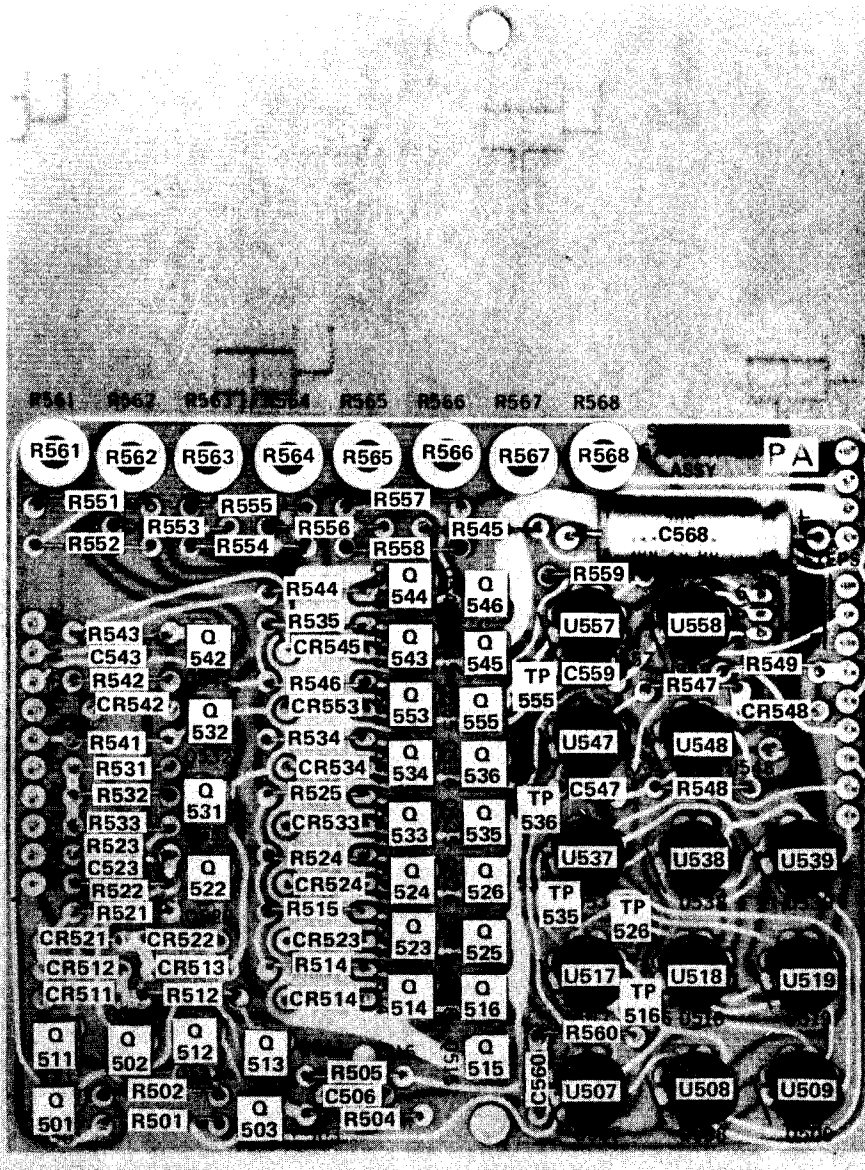

Fig. 3. Staircase circuit board (670-1347-00).
Staircase: Existing photos of the Staircase circuit board (670-0305-00) in the existing Type 140 and Type 144 Manuals should be replaced with circuit board shown in Fig. 3.
5. Using Fig. 3 of this insert as a guide, CHECK or ADJUST the staircase levels for 71.5 mV, $\pm 3\%$ listed in Table 2. Step 10 must be 714.0 mV, $\pm 1\%$.